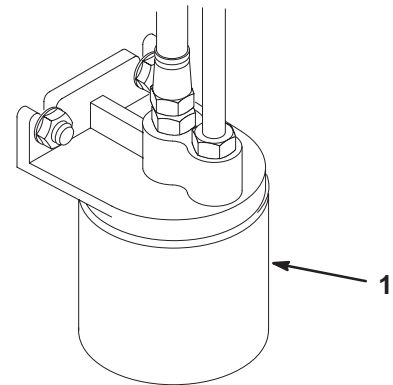

Figure 48
3. Place a drain pan under the filter, remove the old filter, and wipe the filter adapter gasket surface clean (Fig. 48).